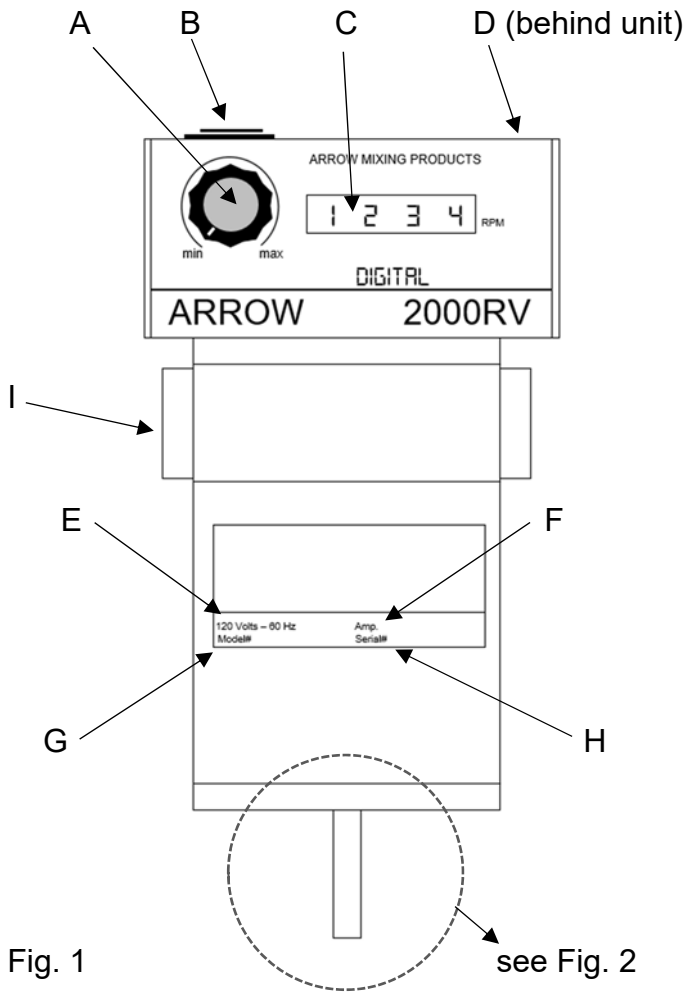

Fig. 1
- The voltage stated on the label (see Fig. 1-E) must correspond to the electrical outlet's voltage.